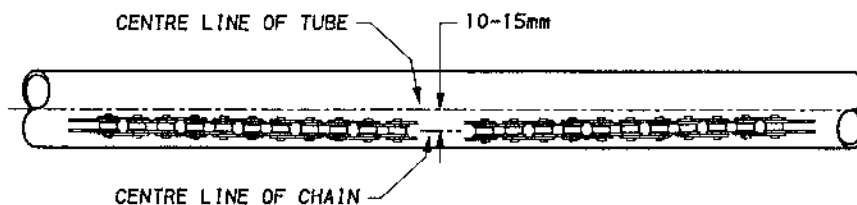

Figure 8
- The tension is correct when the chain sag is between 10mm and 15mm (Figure 8).